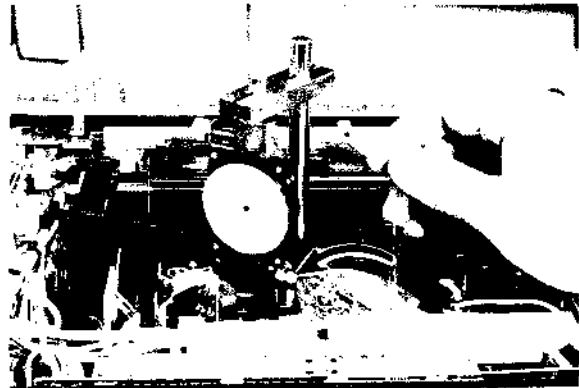

Fig. 4-27
- 2) While using care not to apply lateral pressure to the drum, slowly turn the upper drum and read the deviations indicated by the micro checker. See Fig. 4-27.